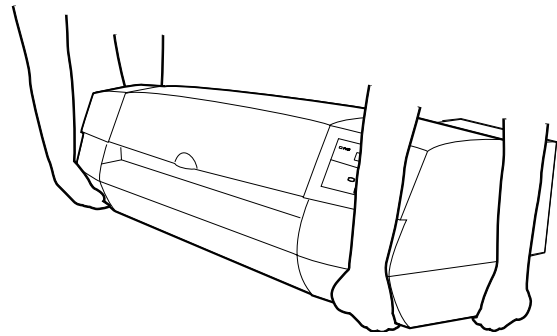

Figure 3-003
4. When lifting this machine, be sure that 2 people hold it as shown in Figure 3-003.